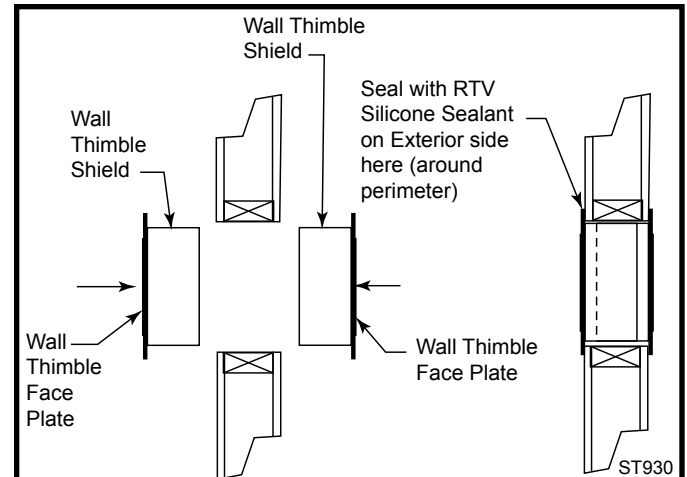

Figure 40 Wall thimble.
5. If required, install the outside half of the wall thimble (WT) through the opening and screw or nail in place. (Figure 40) Seal around the perimeter of the thimble face plate on the exterior wall using an RTV silicone sealant to provide protection from possible rain infiltration. (Figure 40)